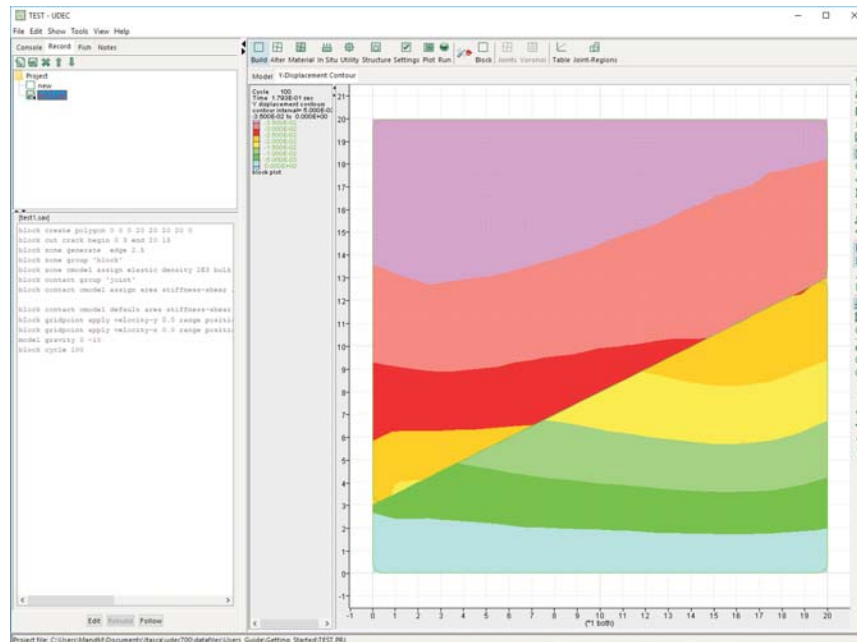

Figure 2.6 Graphics plot from “TEST.PRJ”
6. When the run is finished, click on the tab in the *model-view* pane, and a y-displacement contour plot will appear (as shown in Figure 2.6).